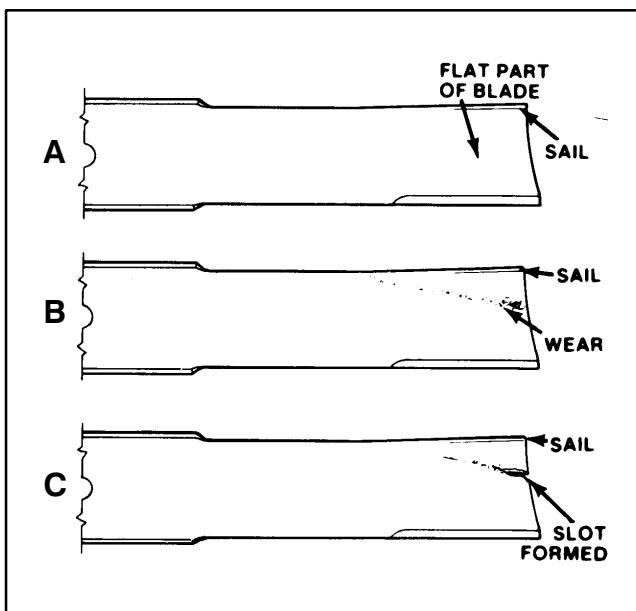

Figure 32
CHECKING SAIL AND SHARPENING CUTTER BLADE (Fig. 32–33)
2. Examine cutting ends of the blade carefully, especially where the flat and curved parts of the blade meet (Fig. 32-A). Since sand and abrasive material can wear away the metal that connects the flat and curved parts of the blade, check the blade before using the mower. If wear is noticed (Fig. 32-B), replace the blade.